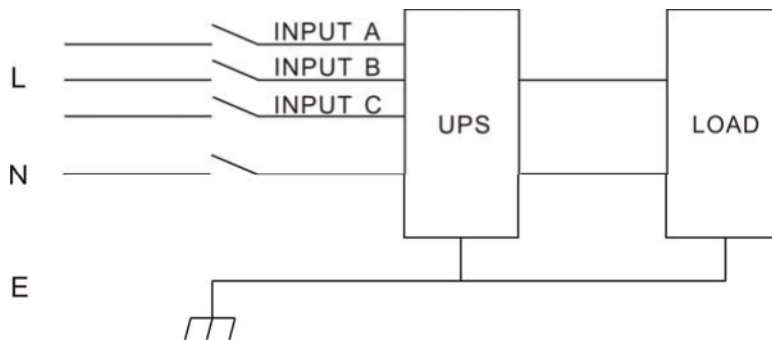

Fig.1 Correct connections
- * For the safety sake of user and equipment, please betake correct power configuration (Fig. 1, 2).